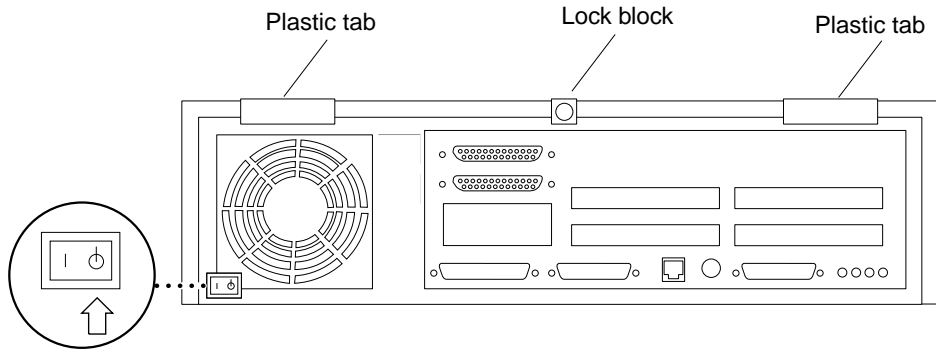

FIGURE 2-3 Opening the System Unit
1. Use a Phillips screwdriver to remove the lock block (if installed) on the top cover and back panel (FIGURE 2-3).